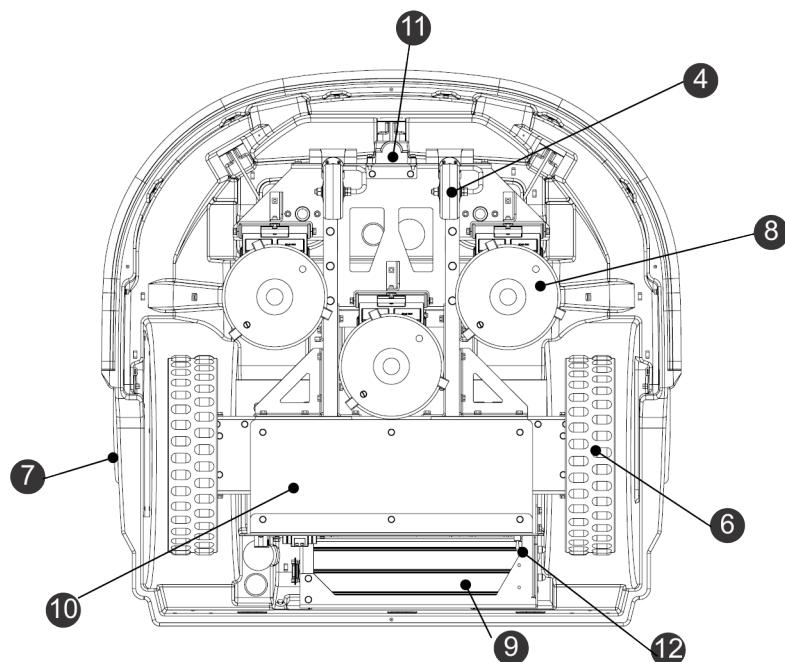

Figure 3: Bottom view of robot components
A second one, which contains identical information is situated on the sealed electronic box (component 10 in Figure 3: Bottom view of robot components (page 12)) and is not normally visible. This ensures that whenever the robot is dismantled, for whatever reason, the body and smart box containing the interface are correctly matched with the mechanical components.
The location of the coil can be seen as item (11) in Figure 3: Bottom view of robot components (page 12).